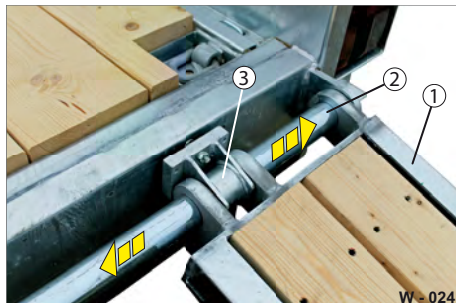

Fig. 19 Lubricating ramp bearing
- ▶ Lubricate the cross frame/bearing points (Fig. 19/2) with machine grease.